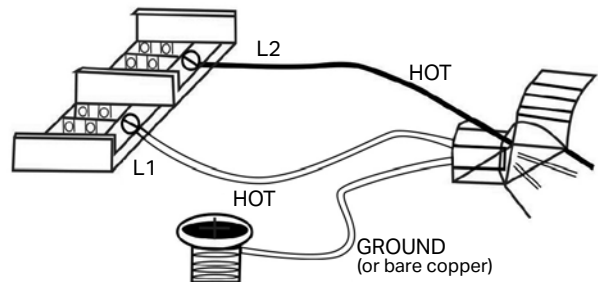

Figure 7
Remove screws from the panel to access power block, see **Figure 7**.
3. Pull enough wire into the heater and connect to wire to the Power Block located in the electrical area of the heater, See **Figure 7**.